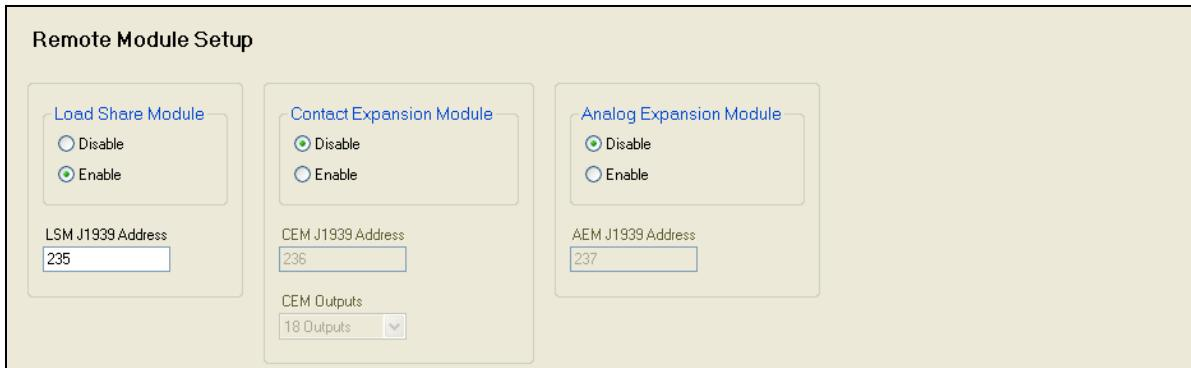

Figure 6-24. Settings Explorer, System Parameters, Remote Module Setup Screen
c. Remote Module Setup (Figure 6-24)